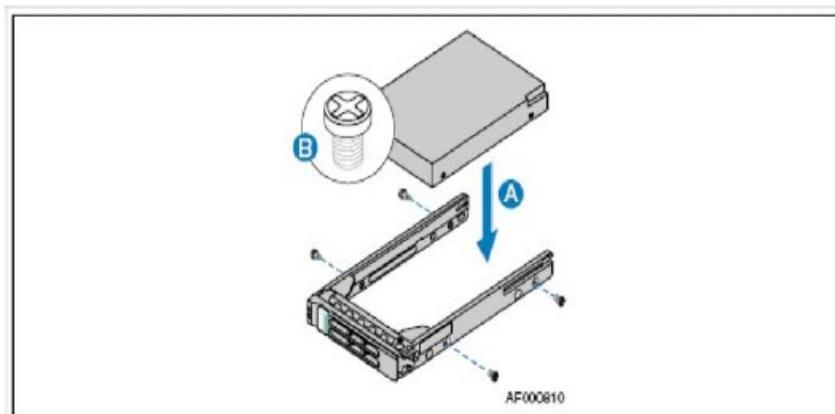

Figure 24: Attaching a Hard Drive to the Drive Tray
1. Install the new hard drive in the drive tray (“A” in Figure 24: Attaching a Hard Drive to the Drive Tray) and secure the hard drive with the four screws (Inset “B” in Figure 24: Attaching a Hard Drive to the Drive Tray), that come with the drive tray.